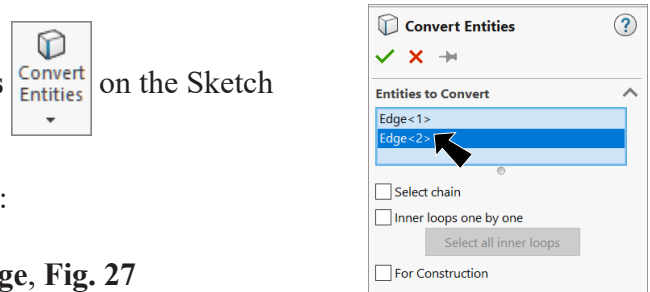
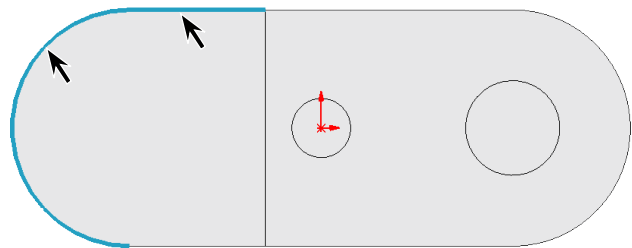

Fig. 26
Fig. 27
Step 4. In the Convert Entities Property Manager: under Entities to Convert, Fig. 26 click **left circular edge and top edge**, Fig. 27 click OK .